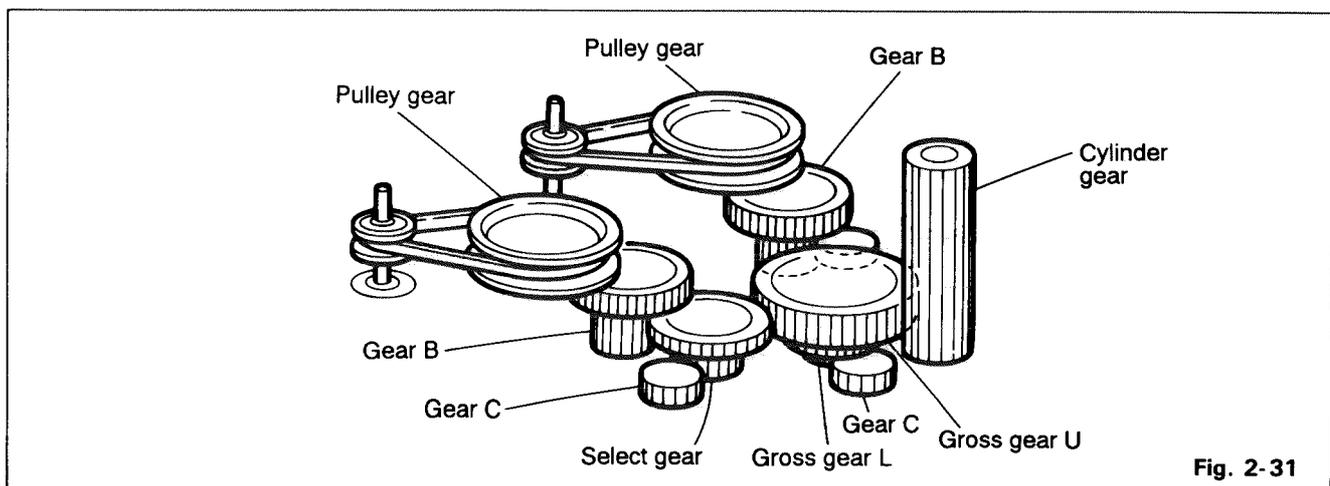

Fig. 2-31
4. Remove the belts respectively from the right and left actuator motor pulleys and pulley gears (See Fig. 2-31).
[Note] When the chassis assembly is turned over under the conditions wherein the gear bracket and belt have been removed, then the pulley gear as well as the gear, etc. constituting the gear unit can possibly be separated to pieces. In such a case, assemble these parts by referring to the assembly and configuration diagram in Fig. 2-31.